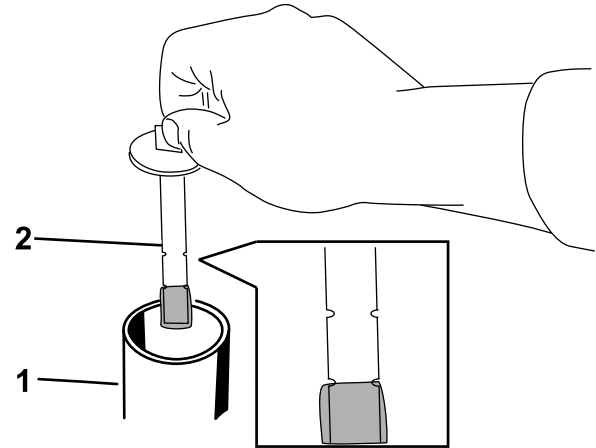

Figure 79
5. Remove the hydraulic-tank cap and dipstick (Figure 79).